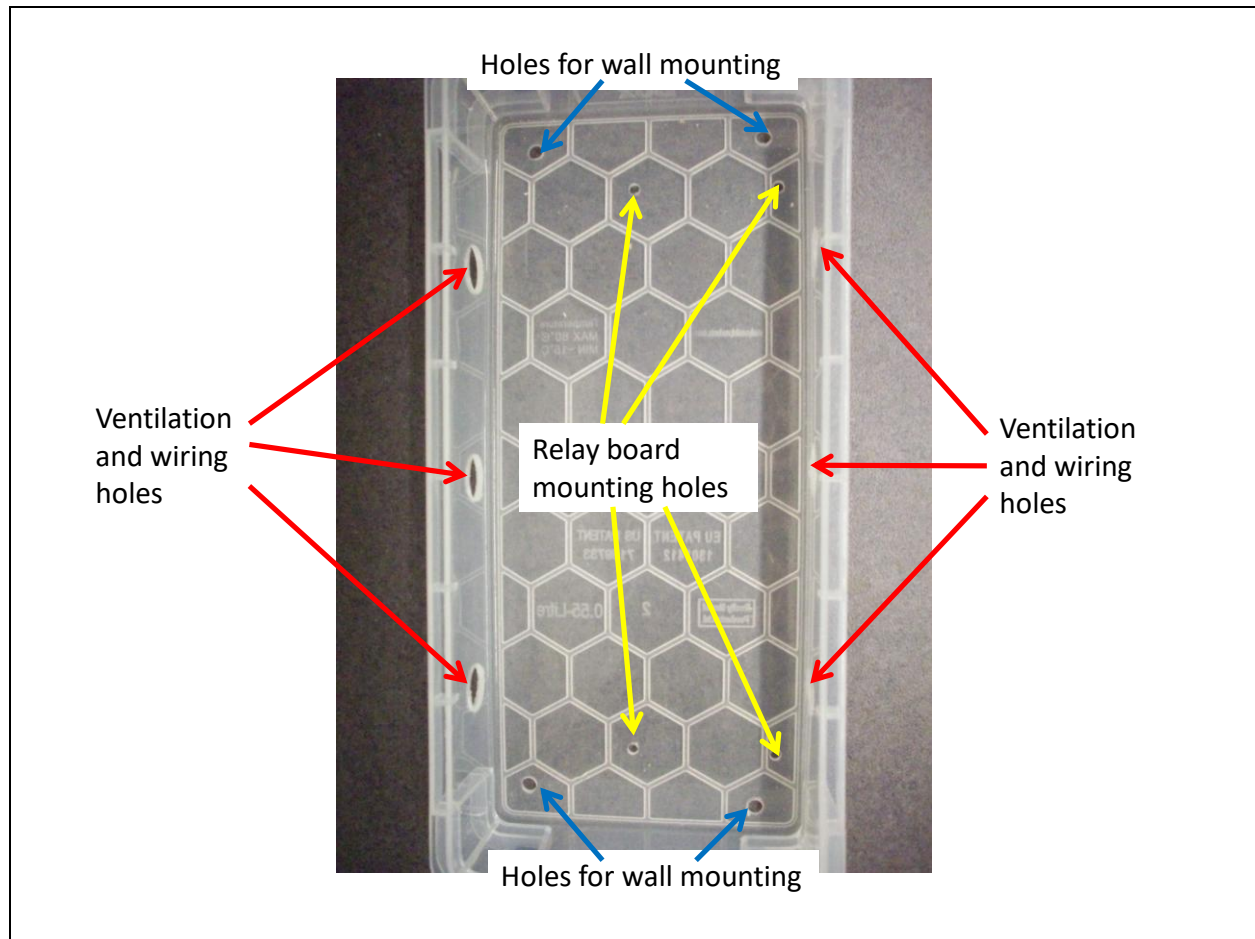

Figure 4.4. Drilling holes in the Pencil Box.
A plastic “pencil box” forms the enclosure for the Relay Board. In order to prepare the pencil box, it is necessary to drill holes in it, as shown in figure 4.4.
- Mark and drill out 3, ½” diameter holes in each side of the box, as shown in figure 4.4. These holes are for ventilation and wiring. The locations are not critical but center them on the sides of the box at locations similar to that shown in figure 4.4.